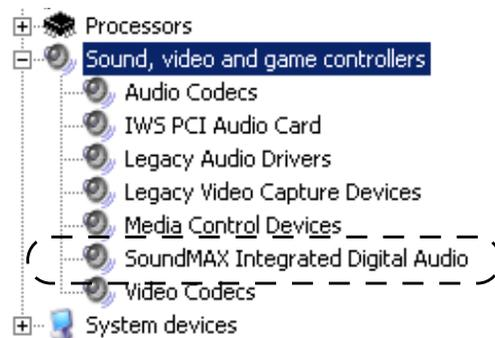

FIGURE 55. Final Check for SoundMAX
12. If the menu is not already open, press the right arrow to open it. You should see the device as listed in Figure 55.